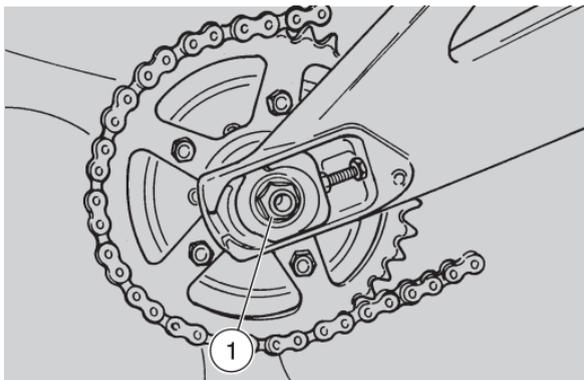

Fig. 36
- remove the nut (1-Fig. 36);
- insert and screw the nut (1-Fig. 36) until the pin sets in the seat;
- tighten the nut (1-Fig. 36).